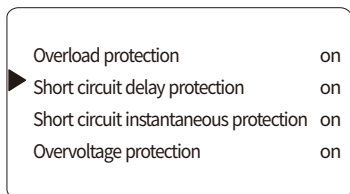
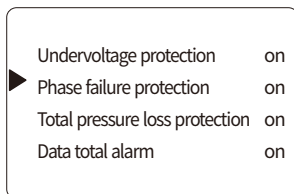
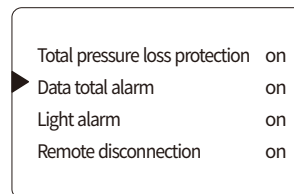

Figure 13
Figure 14
Figure 15
- 3) **[Shift]**: For upward movement when querying parameters, and for digit shift when setting and password inputting status. After entering menu, press [Incremental] and [Menu] key to enter function setting status, as shown in Fig. 13, Fig. 14 and Fig. 15, over-voltage protection, under-voltage protection, phase failure protection, total loss of voltage protection, overload protection, short-circuit delay protection, unbalance protection, zero-default protection, etc. can be set. Overvoltage protection, undervoltage protection, phase failure protection, full undervoltage protection, overload protection, short-circuit delay protection, unbalance protection, zero-deficiency protection, etc. After determining the option, press [Shift], [Increment] to turn on, alarm or turn off the function. In rotating display or tripping